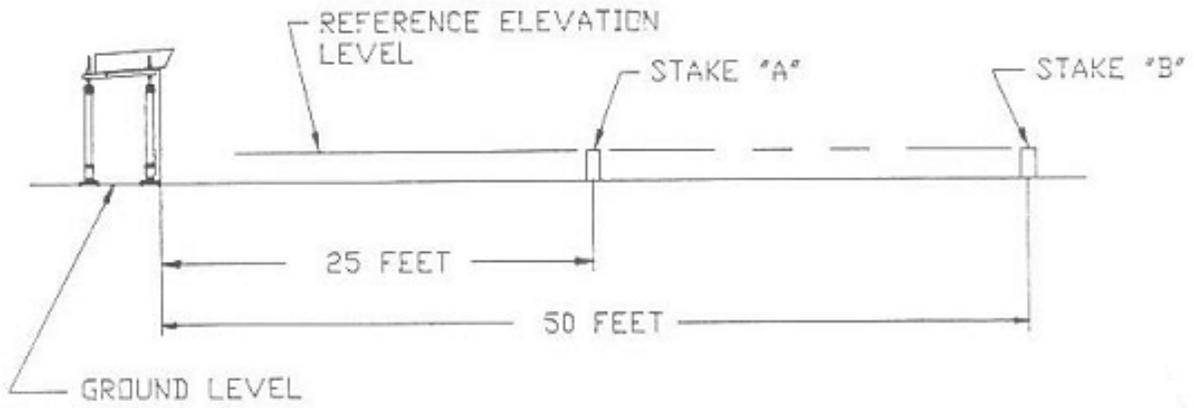

Figure 1, PAPI Unit Glide Slope Angle
6.1. Locate a point (A) 25 feet and another point (B) 50 feet in front of each PAPI unit. Each unit will have either two or three projectors. See figure 1.
6.2. At each location, drive a stake into the ground. Use a transit to align the top of each stake to the same level. The stake tops should be no higher than the PAPI mounting height. See figure 1.